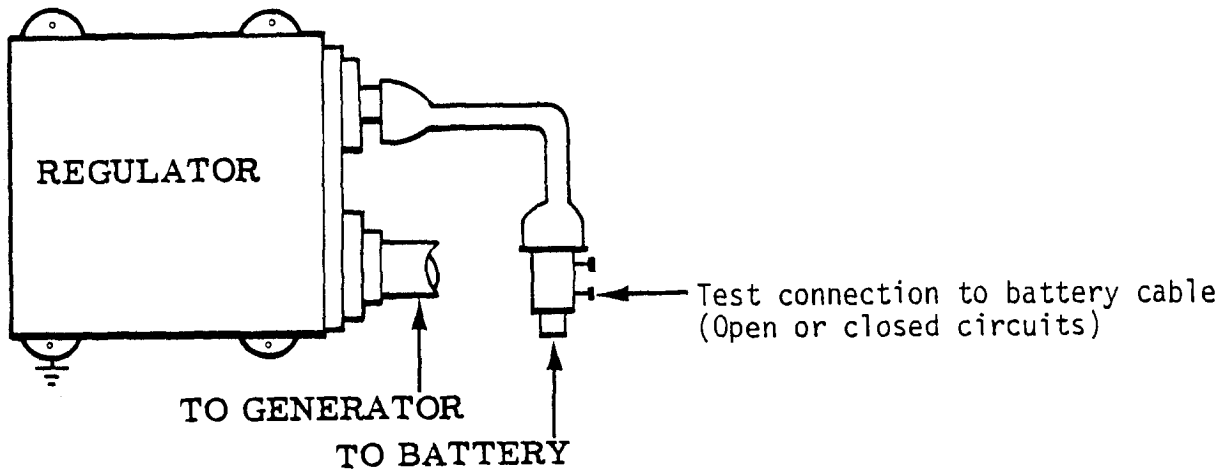

FIGURE 2.
2. Reconnect regulator cable to free end of regulator adapter. (See Figure 2.)